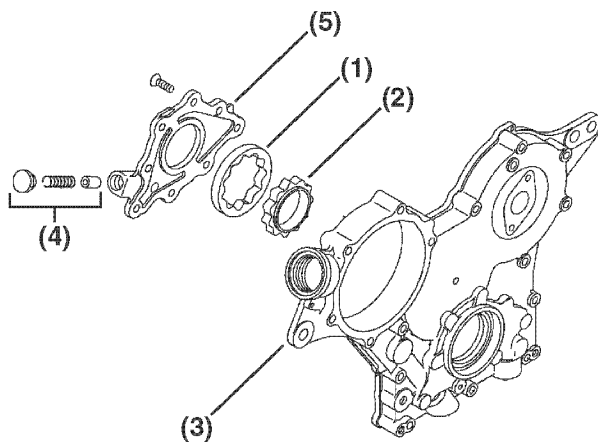

Figure 9-11
1. Lubricate the outer rotor (**Figure 9-11, (1)**), inner rotor (**Figure 9-11, (2)**) and pump bore in the gear case cover (**Figure 9-11, (3)**) with clean engine oil.
4. Reinstall the oil pressure regulator valve (**Figure 9-11, (4)**) into the oil pump cover (**Figure 9-11, (5)**). Apply LOCTITE® 242 (red) to the valve plug, following the manufacturer's instructions.
5. Reinstall the oil pump cover (**Figure 9-11, (5)**). Apply LOCTITE 290 (green) or LOCTITE 262 (red) to the oil pump cover screws. Tighten the pump cover screws to 52 - 70 in-lb (5.9 - 7.9 N·m, 0.6 - 7.9 kgf·m).